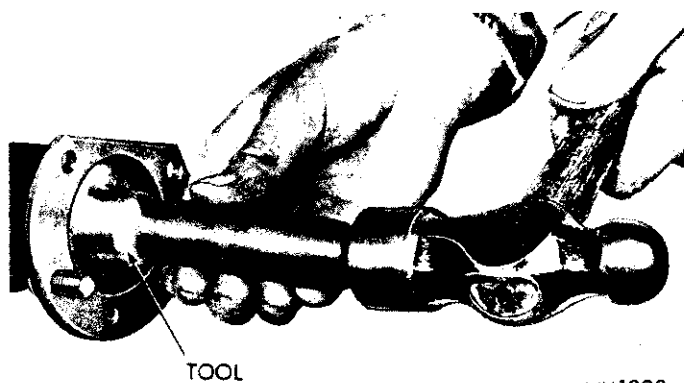

Fig. 7—Installing Axle Shaft Oil Seal
(2) Install new axle shaft oil seals in axle housing, using tool C-3734 (Fig. 7).
(3) Apply a light film of Multi-purpose Lubricant NLGI grade 2 EP or equivalent on outside diameter of bearing to prevent rust and corrosion.
(4) Install a foam gasket on studs of axle housing and position brakes support plate assembly on axle housing studs, followed by outer gasket.
(5) Carefully slide axle shaft assembly through oil